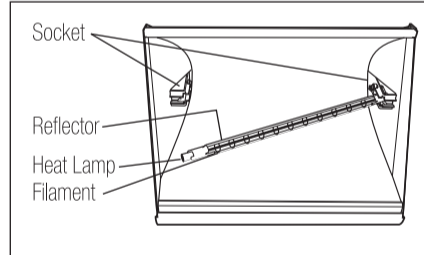

Fig. 11
- 1 The heat lamp is half coated with a white reflector. When you grasp the heat lamp, face the back of the reflector to the ceiling (so you can see the heat lamp's filament). Not doing this will reduce performance. (Fig 11)